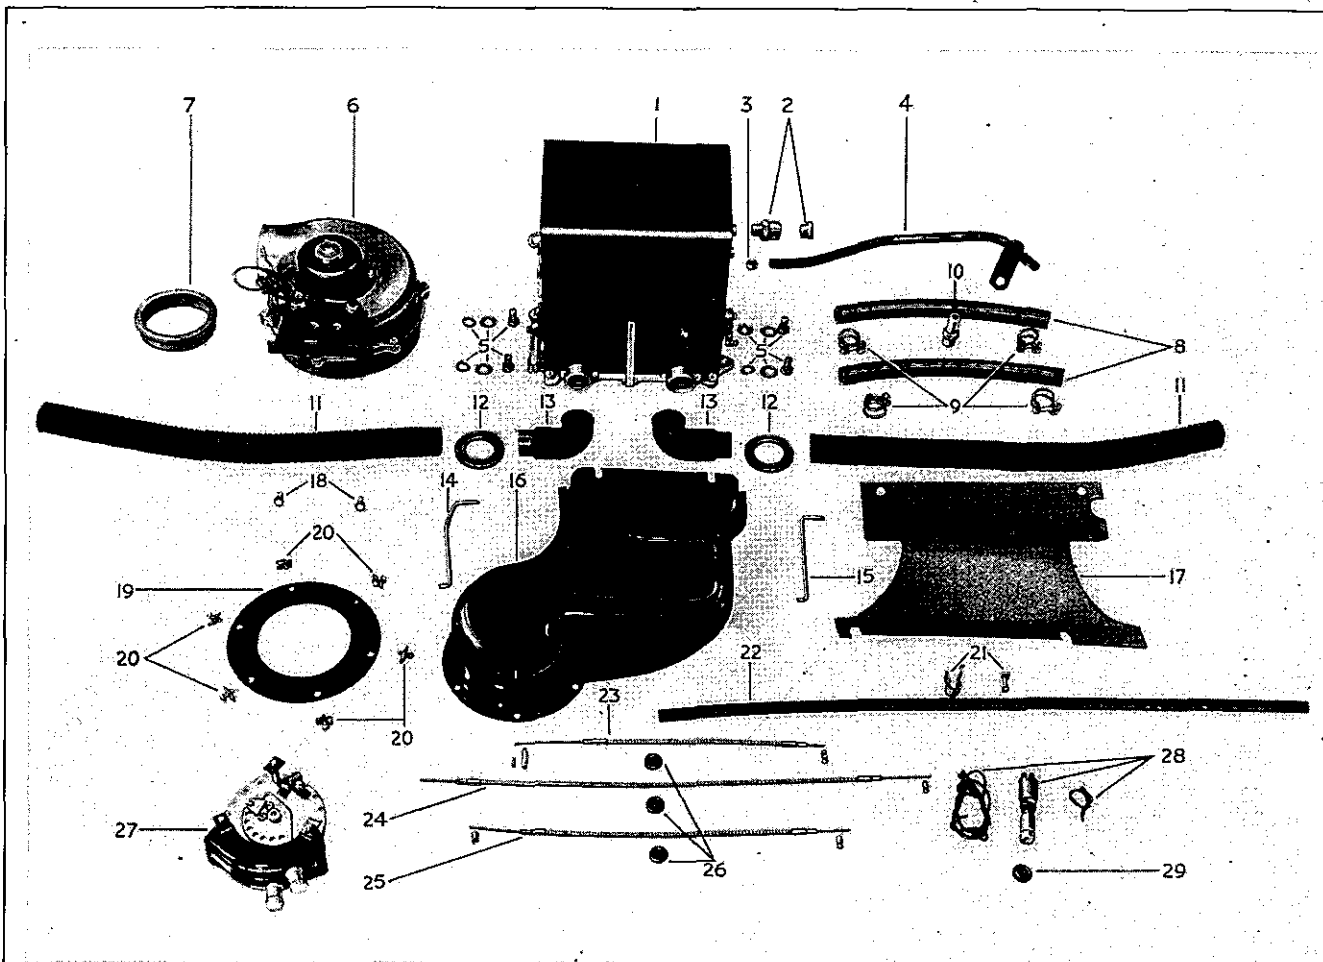

Fig. 3. Heater details.
1. Check equipment supplied against details shown in Fig. 3.
## NOTATION FOR FIG. 3